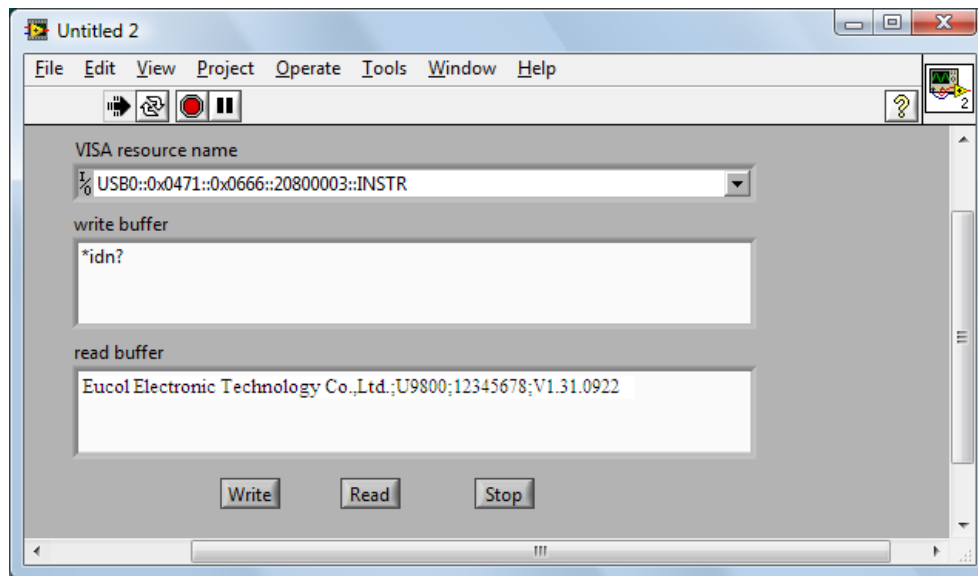

Figure 4-3-7
22. Run the current VI. Input your command or query in the writer buffer, for instance *idn?; click the **Write** control to send the command or query; then click the **Read** control to read the returned information. The execution result is shown as figure 4-3-7.